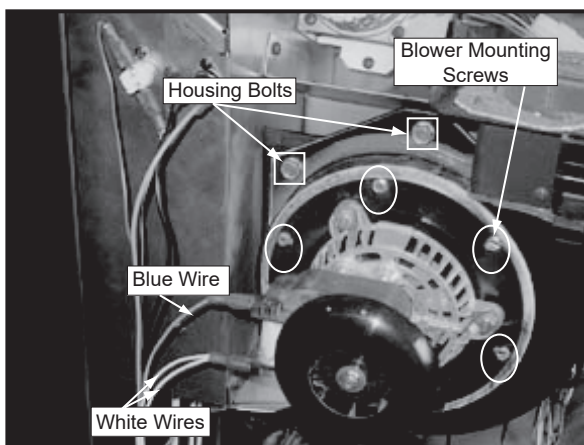

Figure 25.2
- Disconnect the white and blue wires from the blower. Remove blower mounting screws (not housing bolts), **Figure 25.2**, from blower housing and remove blower. The replacement blower is shipped with a housing. If you do not need the housing, discard it. If you do need to replace the housing you will also need to replace the gasket. See Service Parts starting on **page 32** for the part number.